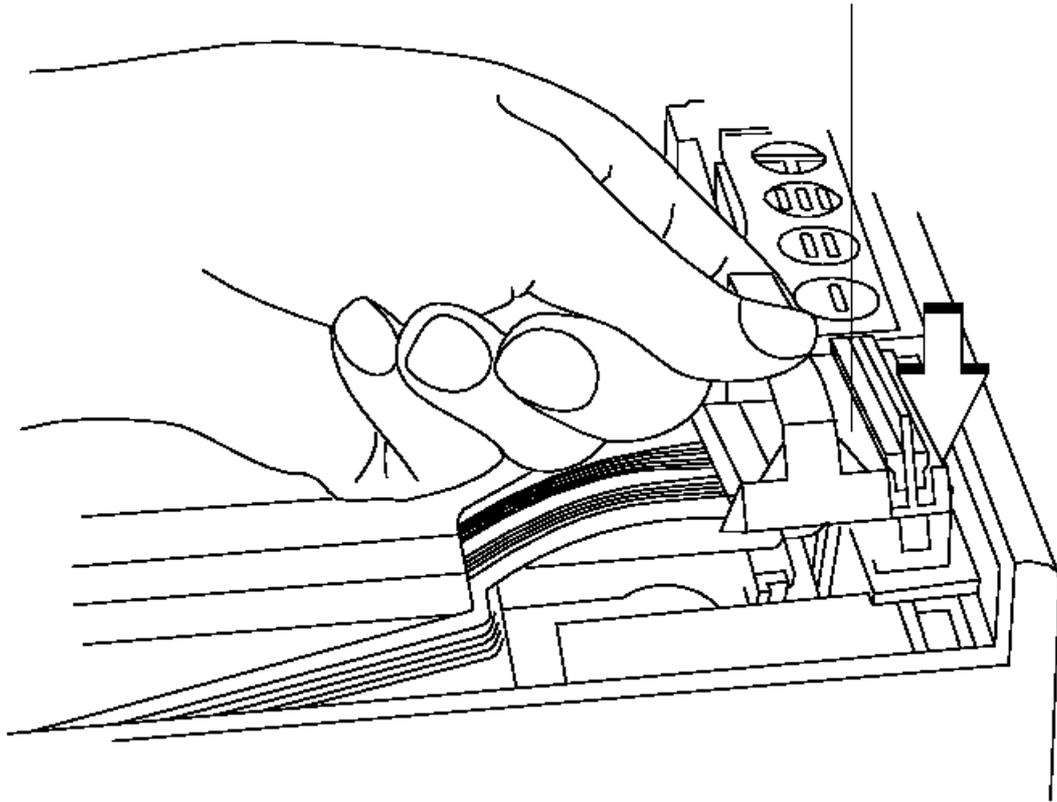

Figure 5-3. Print Head Cable
4. Ensure that the print head cable is connected to the printer card. See Figure 5-3.